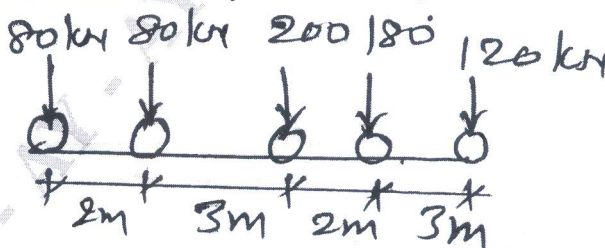

Fig Q10
10. A train of 5 wheel loads as shown in Fig Q10 crosses a simply supported beam of span 24m from left to right. Calculate the maximum positive and negative SF values at the centre of span and the absolute maximum B.M anywhere in the span.